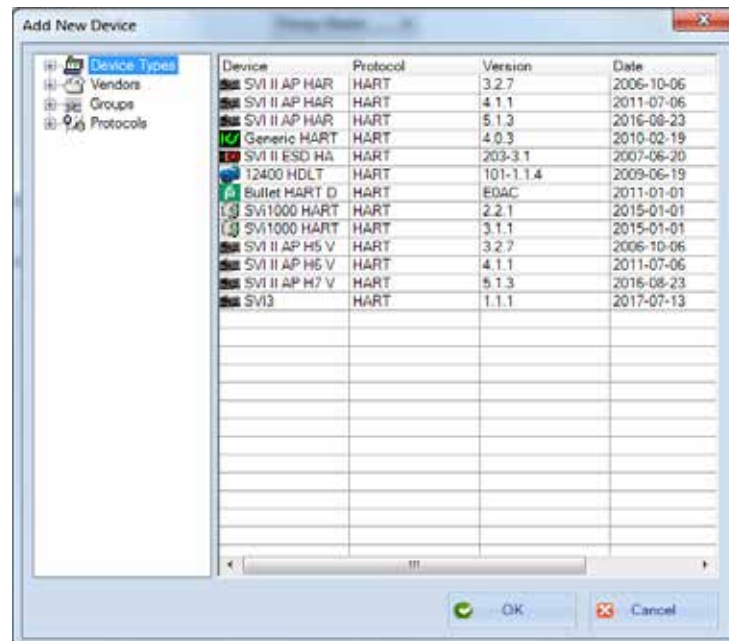

Figure 19 Add New Device
- Clicking **Add New Device**, Figure 19 appears, highlighting **SVI3** and clicking **OK**. Right-click on the SVI3 in the *Project* pane and click **Connect**.